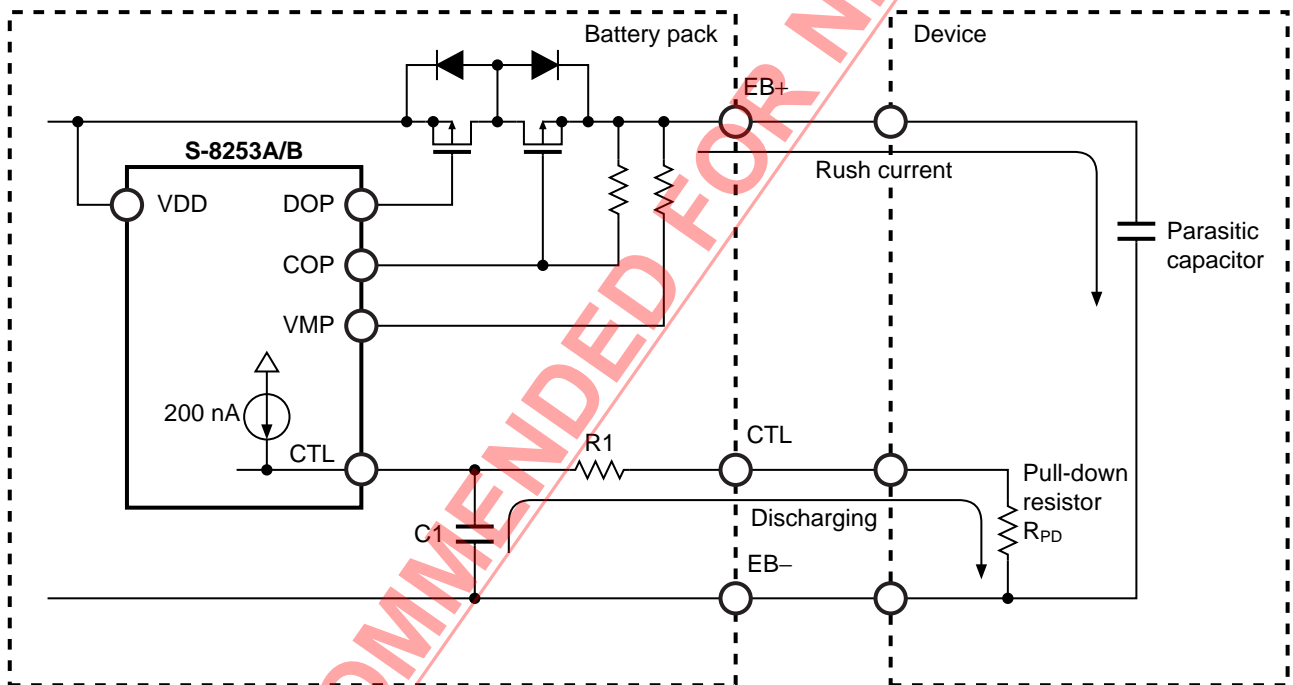

Figure 15
- In case of designing a circuit by using the CTL pin, as seen in **Figure 15**, note that discharging may stop during connecting a battery pack and the device.
As seen in **Figure 15**, before a battery pack is connected to the device, the battery pack may be in the charge / discharge inhibited status in which the CTL pin is internally pulled-up. From this status, if connecting the battery pack to the device, the CTL pin will be pulled-down in a time-constant $C1 \times (R1 + R_{PD})$ by a pull-down resistor in the device. If the CTL's potential reaches $V_{CTLH} < V_{CTL} < V_{CTLL}$, the battery pack goes in the delay time-shortening status so that it releases charging and discharging, hence it starts charging a parasitic capacitor in the device. In this case, if the rush current, which makes the S-8253A/B Series to detect the overcurrent detection voltage 3 (V_{IOV3}), flows into the device, the overcurrent detection delay time 3 ($t_{IOV3} = 300 \mu s$ typ.) will be shortened. So that the battery pack goes in the overcurrent status in several 10 μs . However, the battery pack goes in the normal status by connecting the device to the charger.